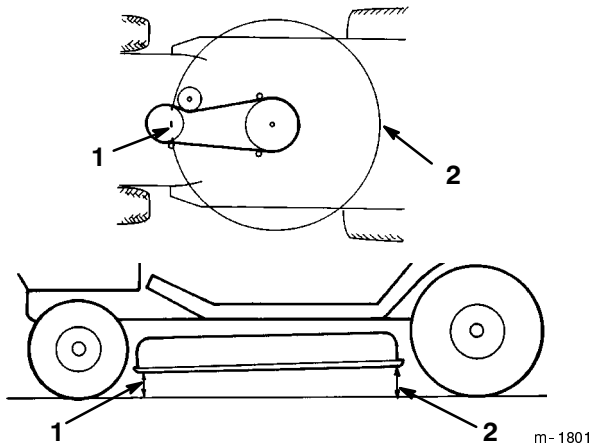

Figure 46
5. Check the front-to-rear blade slope by measuring between the bottom of the mower (front center and rear center) and the flat surface (Fig. 46). If the front of the mower is more than 5/8 in. (16 mm) lower than the rear of the mower, an adjustment is required; refer to steps 6–10.